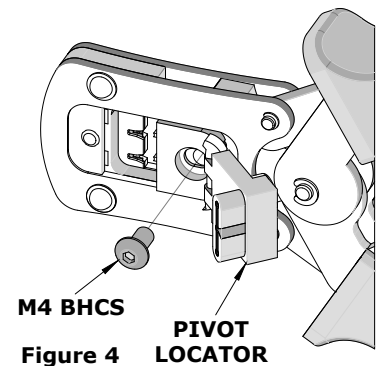

Figure 4
2. Remove the M4 BHCS. See Figure 4.
1. Place the locator on the hand tool. Install the M4 BHCS. See Figure 4.